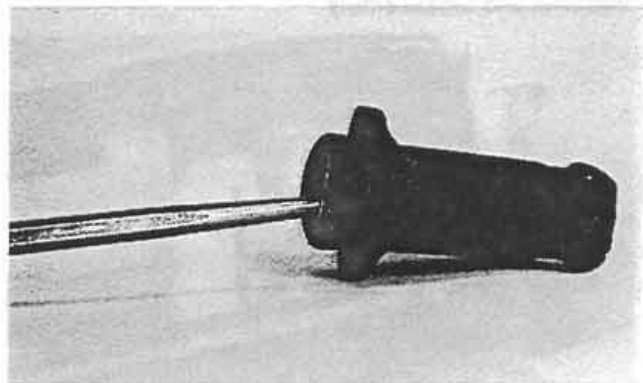
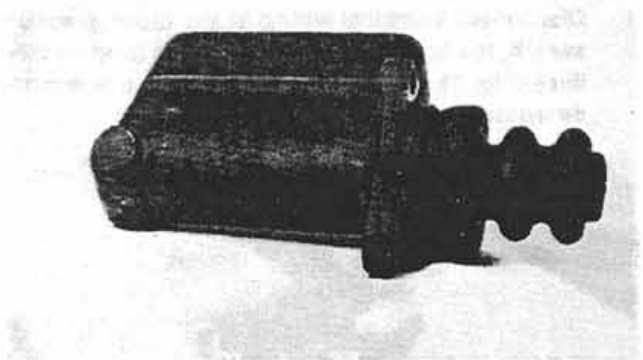

Figure 8:
Figure 9:
3. Hold the piston in the bore while installing the snap ring (Fig. 8). Install the rubber dust boot (Fig. 9).